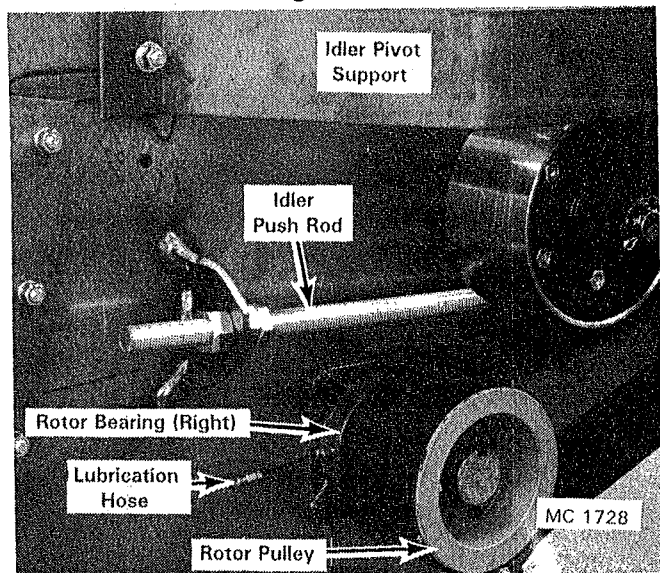

Figure 42 - Idler Push Rod Ass'y.
- Remove the belt guard cover, lubrication hose and back belt guard, see Figure 42. Remove the drive belts. Refer to "Drive Belt Replacement" page 18 for procedure.